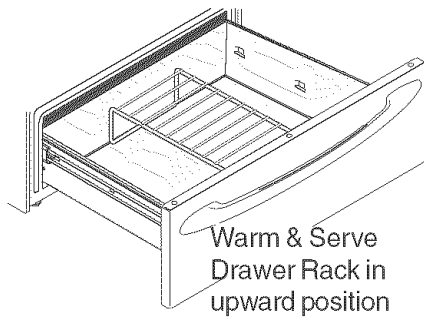
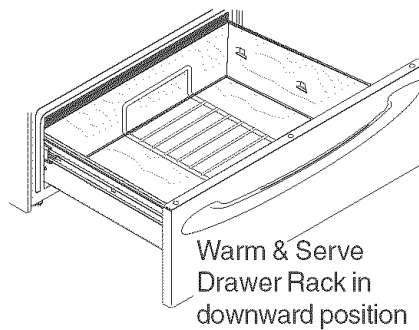

Figure 1
Figure 2
3. Release the knob and rotate to the LITE position (see figure 1). Note: All four electronic surface ignitors will spark at the same time. However, only the burner you are turning on will ignite.
- In the **upward position** (Figure 1) to allow low profile food items to be placed both under and on top of the rack (for example, rolls or biscuits on top of the rack and a casserole dish underneath).
- In the **downward position** (Figure 2) to allow you to place light weight food items and empty dishware (for example, rolls or pastries and dinner plates) on the rack.
2. Set the desired power level. Touch  once to turn ON the power level for HI (see Figure 1) or  to turn ON the power level for LO (see Figure 3). The Warm & Serve Drawer indicator light located beside the  pad will turn ON steady.
3. Each touch of the  or  pads will decrease or increase through 6 power levels from **HI** (see Figure 1) to **MED** (see Figure 2) to **LO** (see Figure 3). Note: For best results, preheat the Warm & Serve Drawer before adding the food. An empty drawer will preheat in approximately 15 minutes.